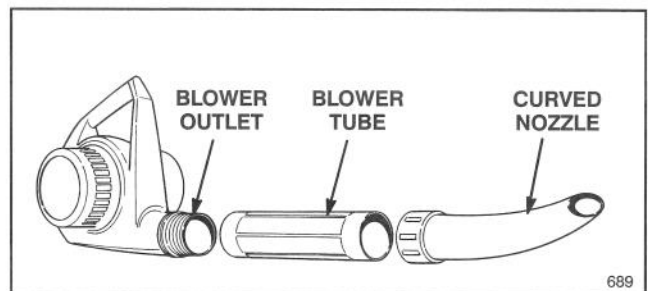

Figure 16
7. Thread nozzle and blower tube together with a twisting motion (Fig. 16).
8. Thread assembled tubes onto blower outlet (Fig. 16).